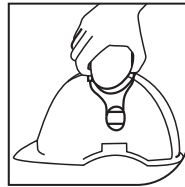

Fig 7
- **Fit the cup:** Push the attachment blade firmly into the slot on the side of the helmet until it clicks into place (Fig 7)